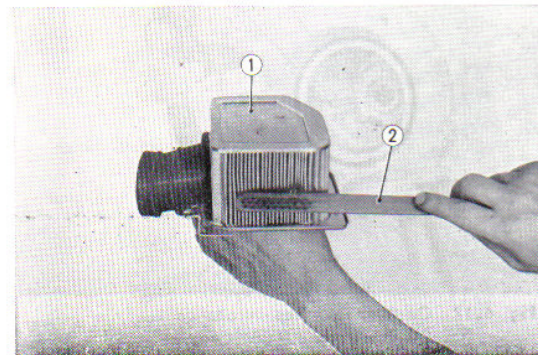

Fig. 6.20 Air cleaner cleaning
4. Tap the element to loosen the dust and then apply dry compressed air from the inside to remove the dust. (Fig. 6.20)